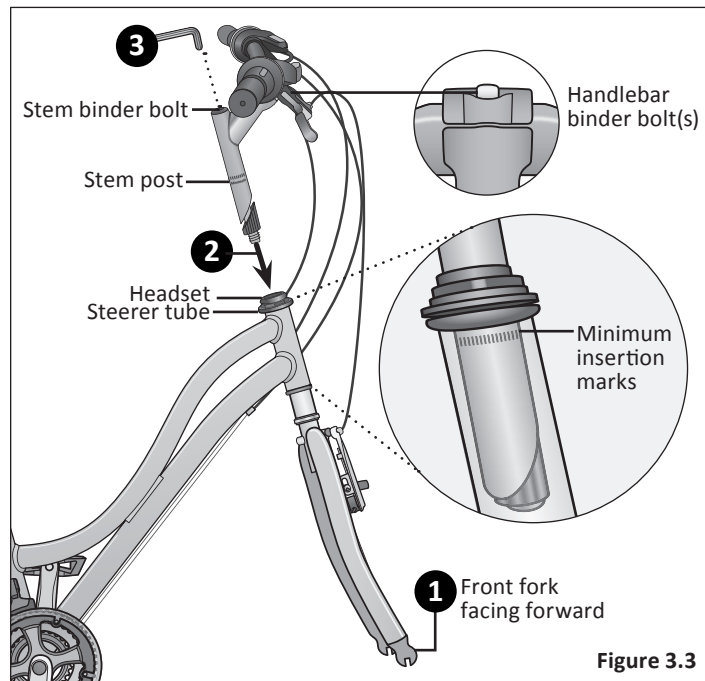

Figure 3.3
- Turn the front fork to face forward. **Figure 3.3**
- ❶ Turn the front fork to face forward (i.e. the fork dropout is in the furthest forward position). **Figure 3.3**